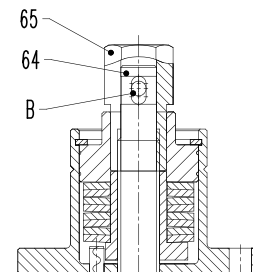

Figure 7-5
7. Turn the hexagon head (1) slightly counter clockwise until the first hole (B) of hexagon head (65) reaches the slot of the spindle (64); see «Figure 7-5».